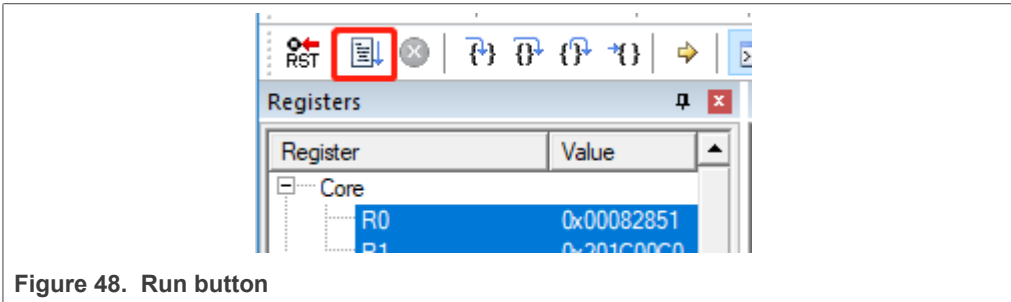

Figure 48. Run button
5. Run the code by clicking **Run** to start the application, as shown in Figure 48.